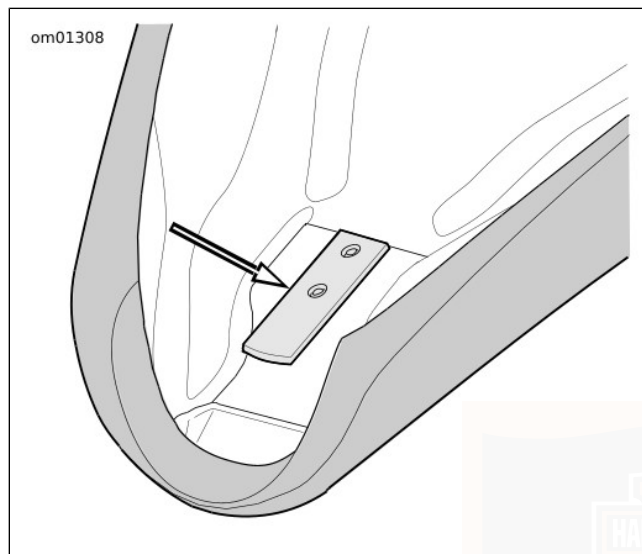
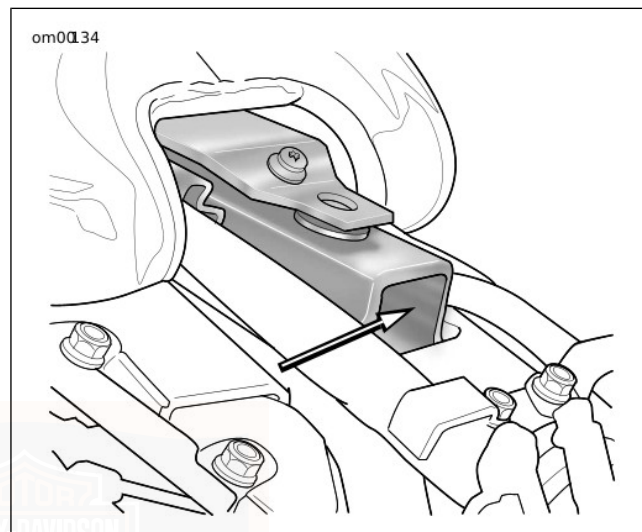

Figure 55. Seat Tongue (typical)
Figure 56. Frame Back
See Figure 55 and Figure 56. The seat has a tongue which engages a slot in the back end of the frame. Follow the appropriate procedure for your model motorcycle to remove or install the seat.
2. See Figure 55. Push seat rearward to free tongue at front of seat from slot or bracket in frame back.